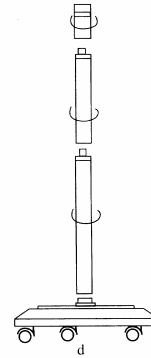

Fig.3
2. The device provides three pipes to users for assembling, The connection between the pipe and the connector should be tightened up, in case of looseness while using. (see Fig. 3).